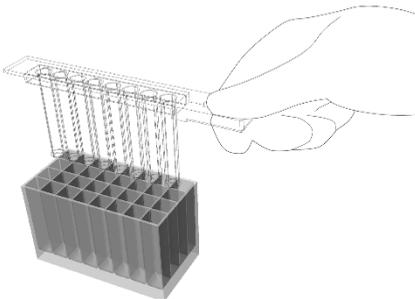

Figure 19. Mixing of content of **column 3** using only the rod cover.
15. Using only the rod cover, mix the contents of **column 3**, by slowly lifting the rod cover to the top of the solution and returning the rod cover to the bottom of the wells 10 times for 1 minute (Figure 19).